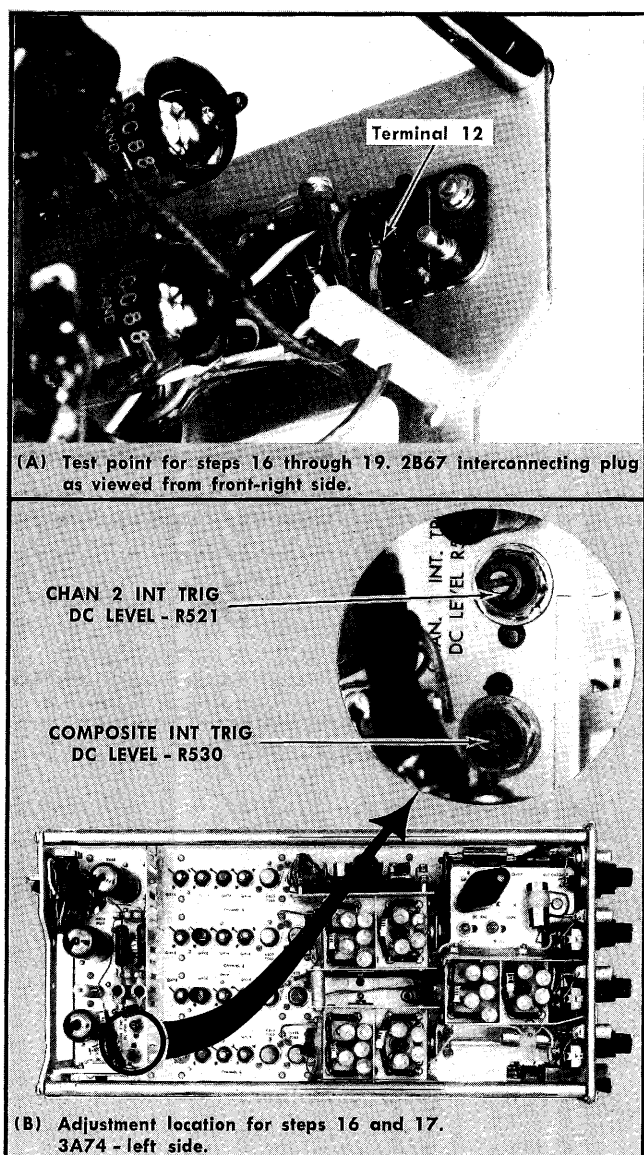

Fig. 5-14. Test point and adjustment locations.
e. Connect the Test Oscilloscope to the COMPOSITE INT TRIG DC LEVEL line, which is accessible at terminal 12 of the 2B67 interconnecting plug. See Fig. 5-14 (A).